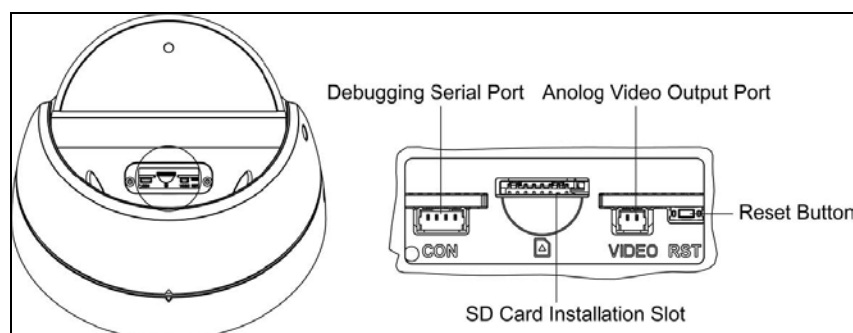

Figure 4-2
1. Press the Reset button for five (5) seconds to reset camera and to send video along the analog connection. Refer to Figure 4-2 on page 7.